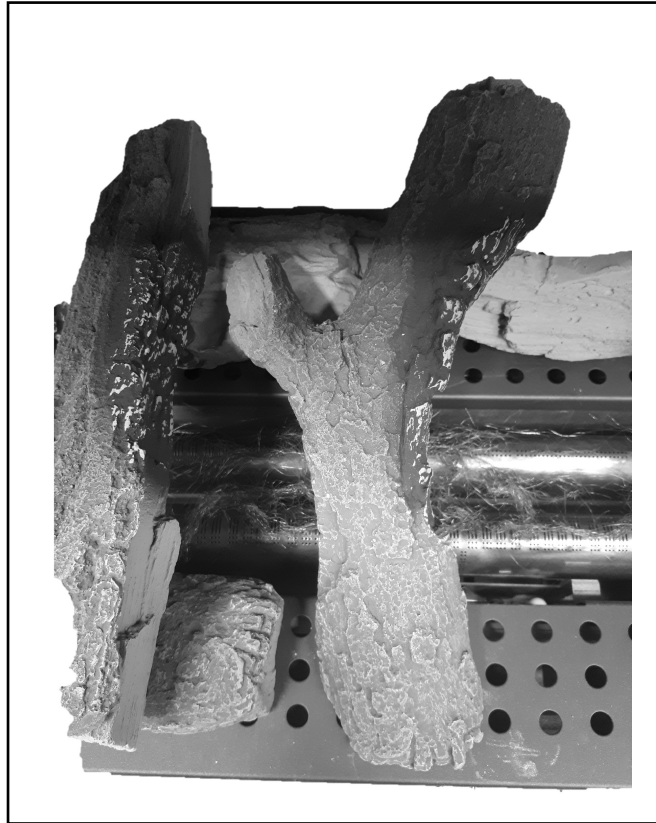

Fig. 7
7. Place Log '7' so that it is resting at the front on the metal base beside Log '4' and to its rear across Log '1' and Log '2' as shown in fig.7.